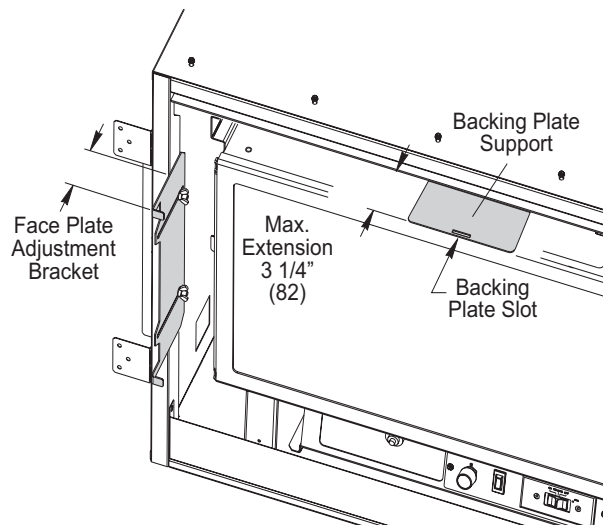

Figure 6.16.
1. Hang the Backer Plate on the side adjustment brackets, engaging its center tab with the slot in the Support Plate. See Fig. 6.16.